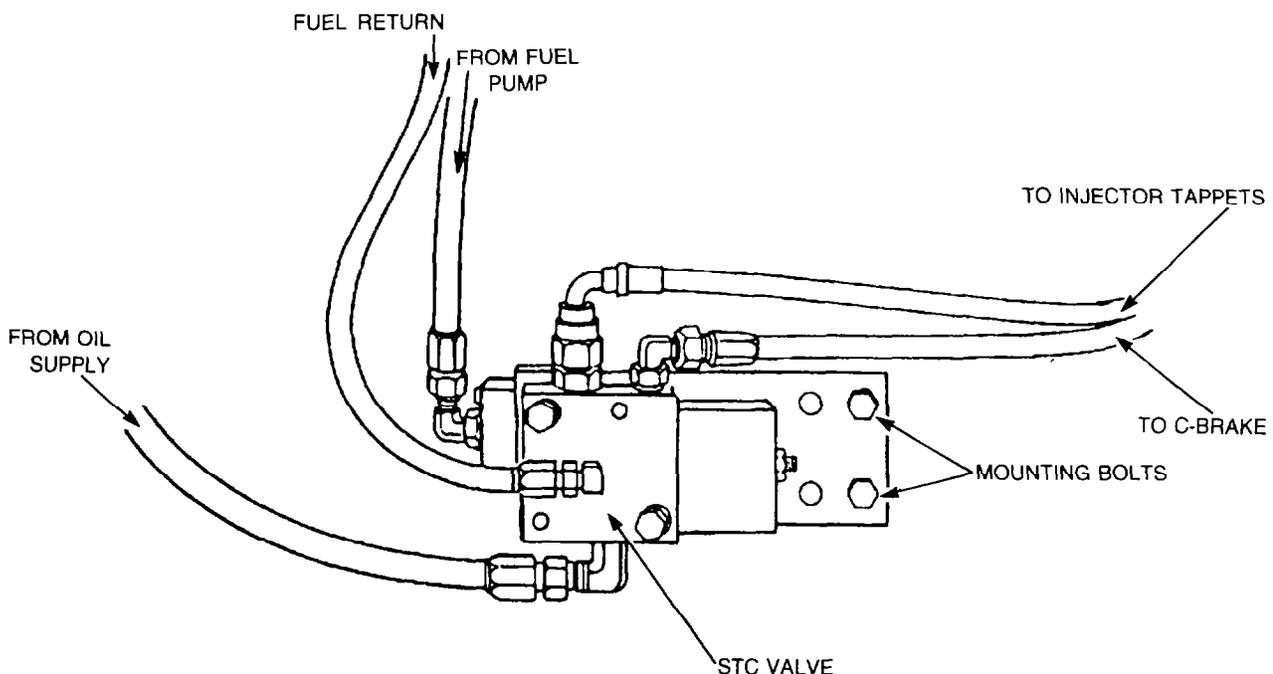

Figure 14 — STC Valve Hose — Locations
- ai. Tag and remove the oil control hoses from the STC valve, then remove the mounting bolts and separate the STC valve from the cylinder block (see Fig. 14). Seal all apertures using suitable plastic plugs. Disconnect the hoses from the cylinder block.